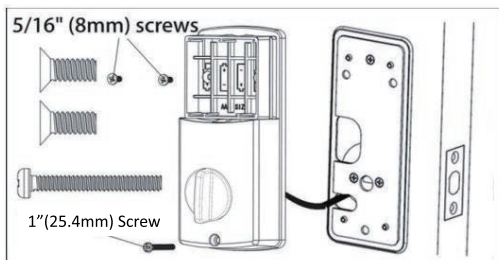

Figure 12a-b
- Position the Interior Assembly over the tailpiece and push the Interior Assembly against the door (Figure 12a).